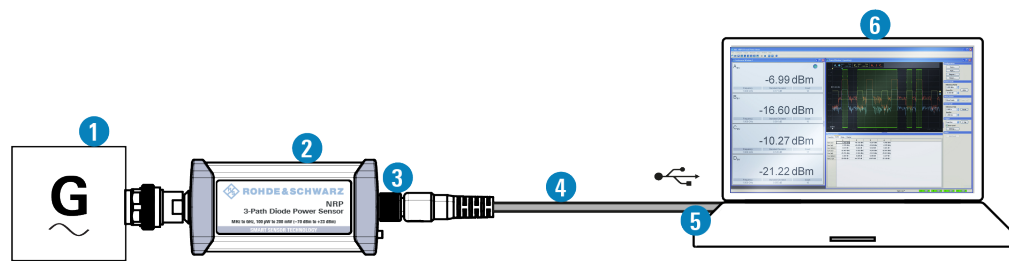

Figure 5-2: Setup with an R&S NRPV
1. Connect the power sensor to the computer as shown in Figure 5-2.